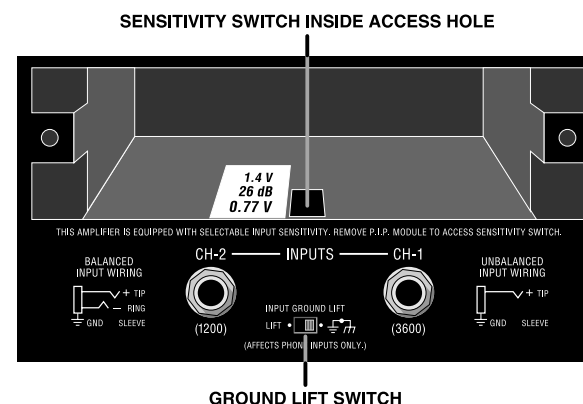

Figure 4.1 Input Sensitivity and Ground Lift Switches
The Input Sensitivity Switch is located inside the PIP compartment at the back of the amplifier (Figure 4.1). It is set at the factory to 0.775 volt for rated output into 8 ohms. It can also be switched to a sensitivity of 1.4 volts, or a fixed voltage gain of 26 dB (4.8 volts for rated output). At 26 dB voltage gain, the equivalent input sensitivity is:
3. Locate the sensitivity switch access hole inside the chassis opening as shown in Figure 4.1. It is located just above the phone jack inputs.
The Input Ground Lift switch is located on the rear panel (Figure 4.1) and can provide isolation between the input signal ground and the AC ground. It affects only the phone jack inputs and has no effect on the input connectors on the PIP module. Sliding the switch to the left isolates or "lifts" the grounds by placing an impedance between the sleeve of each phone jack and the circuit ground.